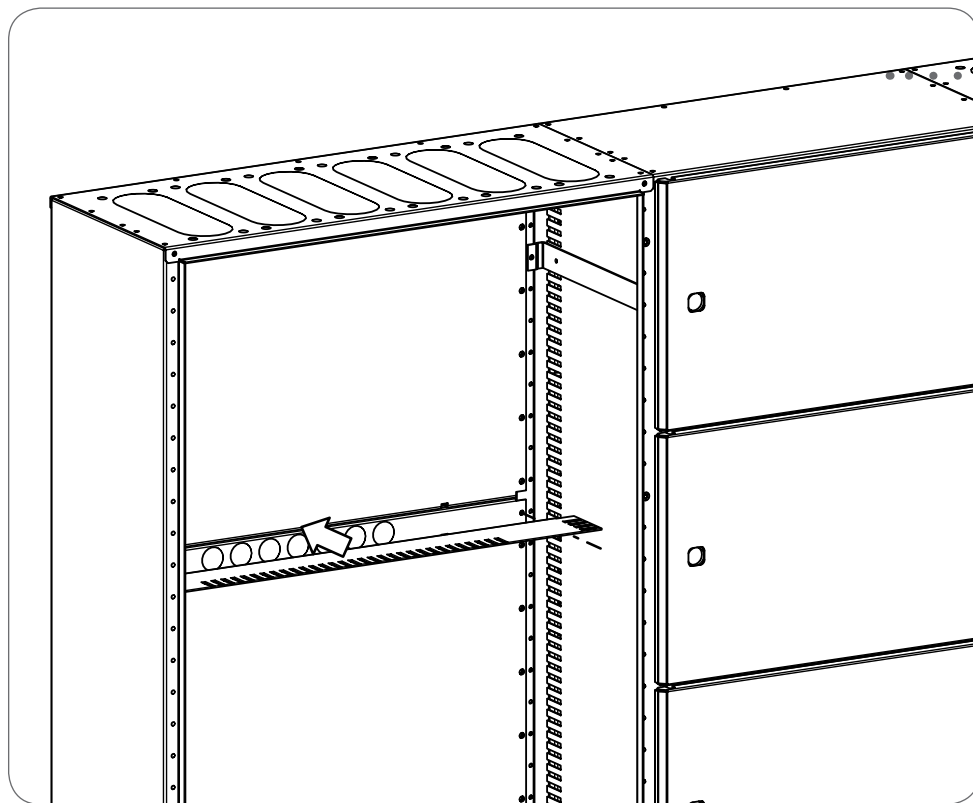

Fig 8.3.1 Drip cover rear part is fixed with screws to L profiles.
Figure 8.3.1 a) shows how the drip cover rear part is installed to the L profiles. The front part of the drip cover (2) and the horizontal intermediate profile (3) are fastened with screws as shown in Fig. 8.3.2. b).